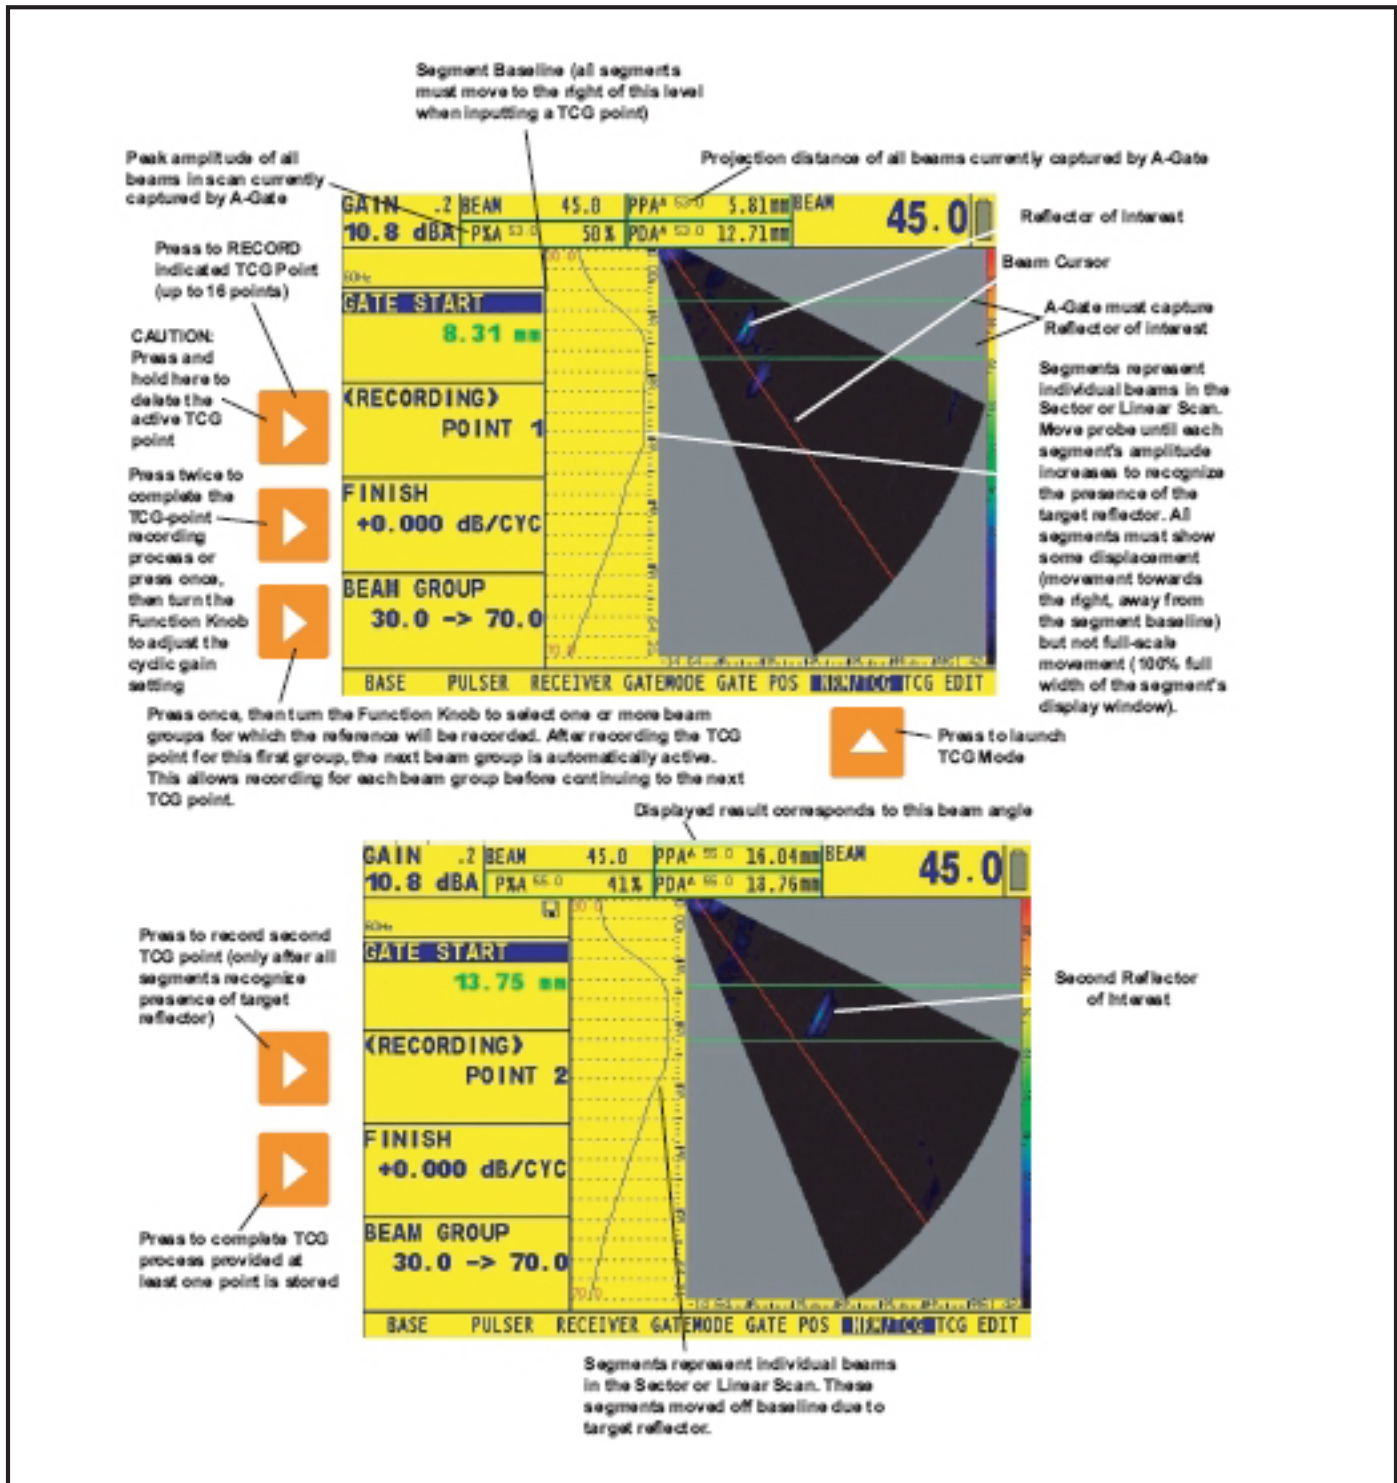

Figure 34: TCG Recording Process
3. Start the recording process by pressing  (two times) next to RECORD so that POINT 1 appears. Couple the phased array probe to the test standard so that at least one “step” segment on the display’s left side (see Figure 34 on page 72) indicates the reflector’s presence. As seen in Figure 34, display segments move to the right from their baseline position by an amount that’s proportionate to their maximum amplitude. Note that changing Gain setting or moving the A-Gate THRESHOLD will alter the amplitude at which this reflector is detected in A Gate.
After the TCG-point recording process has begun, cycle gain can still be added by pressing the same key, identified in Figure 34 on page 72. (**WARNING:** pressing this key twice will finish the TCG process.)
4. Press  to activate the BEAM CURSOR Function and set its value to a single beam, or turn in to one of its extremes to select all beams in the SCAN (see Figure 34 on page 72).
- **BEAM CURSOR**—Select the beam (angular position in sector-scan mode or shot number in linear-scan mode) to be edited. Note that edits can be made beam-by-beam or to all beams at once. To edit all beams at once, set the BEAM CURSOR Function at either of its extreme positions. This condition, shown in Figure 34 on page 72, will cause all available beams (such as 1 through 57, if the scan includes a total of 57 beams) to be listed.